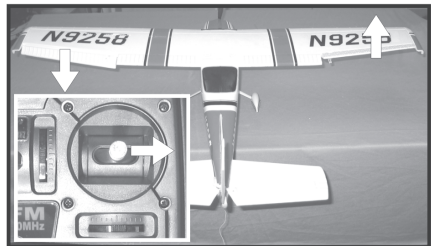

Figure 18c
- If you push the right control stick on the transmitter (see figure 2, pos. 4) to the right, the left aileron (1) has to deflect by approx. 1.2 cm downwards and the right aileron (2) by approx. 1.2 cm upwards (see figure 18c).